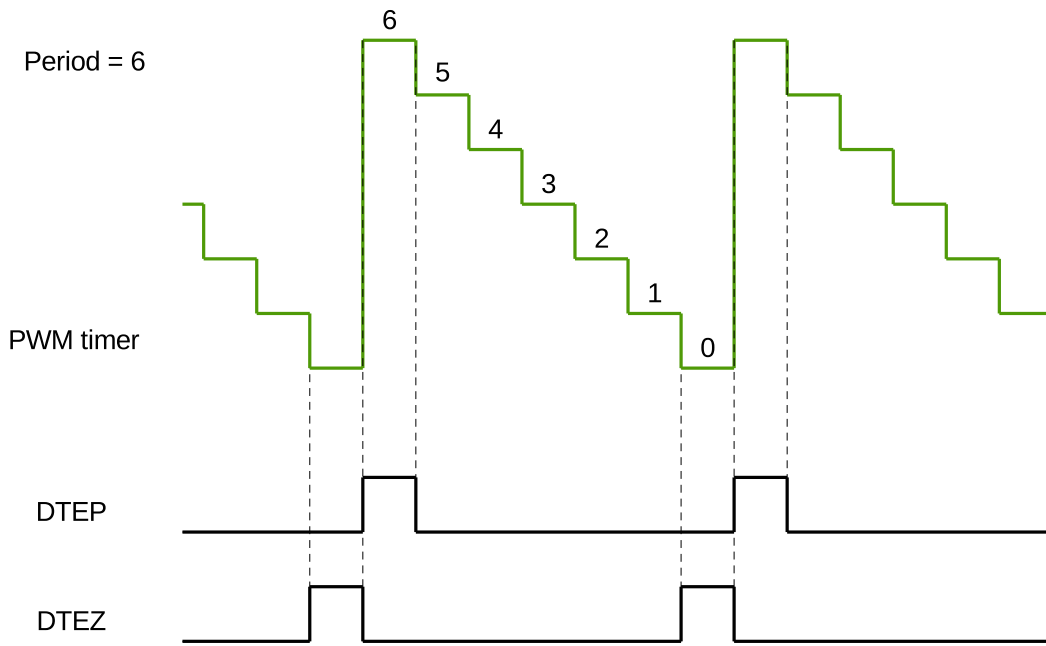

Figure 91: DTEP and DTEZ Generation in Count-Down Mode
2. DTEP and DTEZ do not happen simultaneously. When the PWM timer is in count-down mode, DTEZ will always happen one cycle earlier than DTEP, as demonstrated in Figure 91, so their action on PWM signals will not interrupt each other. When the PWM timer is in count-up-down mode, DTEZ will not occur.